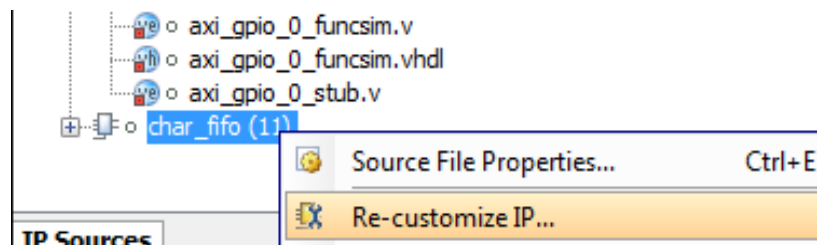

Figure 2-16: Re-customize IP Option
- In the **IP Sources** view, right-click the IP, and select **Re-customize IP** from the menu as shown in Figure 2-16.